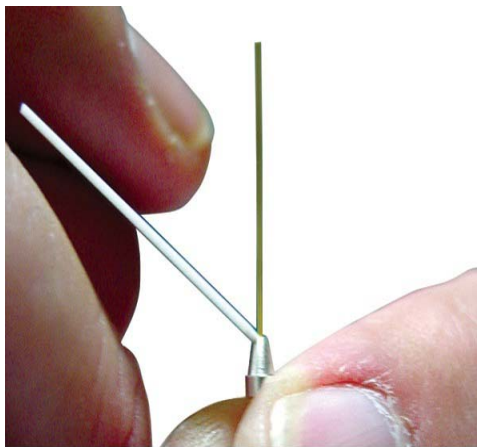

Figure 5 Column cutter edge
- 3 Use the sharp edge of the column cutter to score the column 2 cm from the end. See Figure 5.